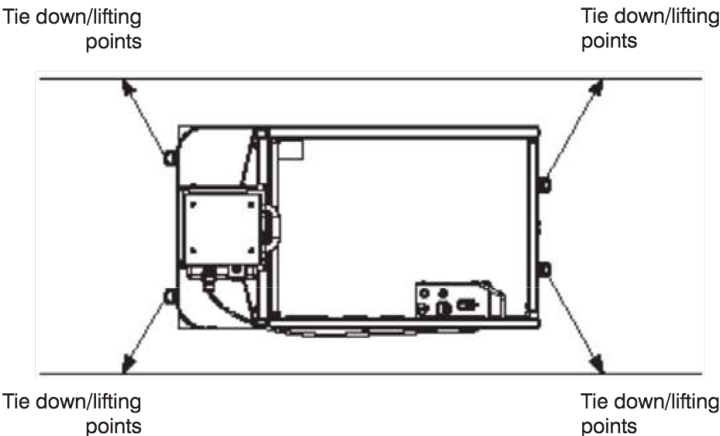

Figure 3-8. Tie Downs/Lifting Points
When transporting, the MEWP must be secured to the truck or trailer deck. Tie downs are available as illustrated in Figure 3-8.
- The lifting/rigging must be attached to all four lifting points as illustrated in Figure 3-8.